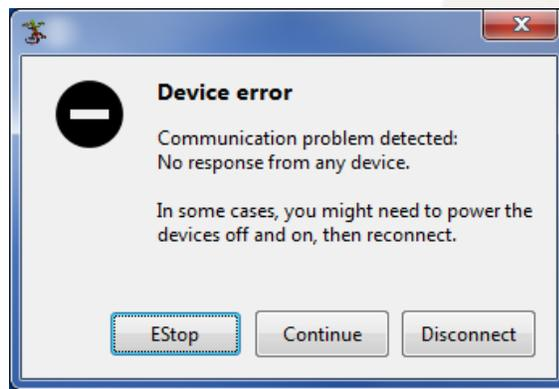
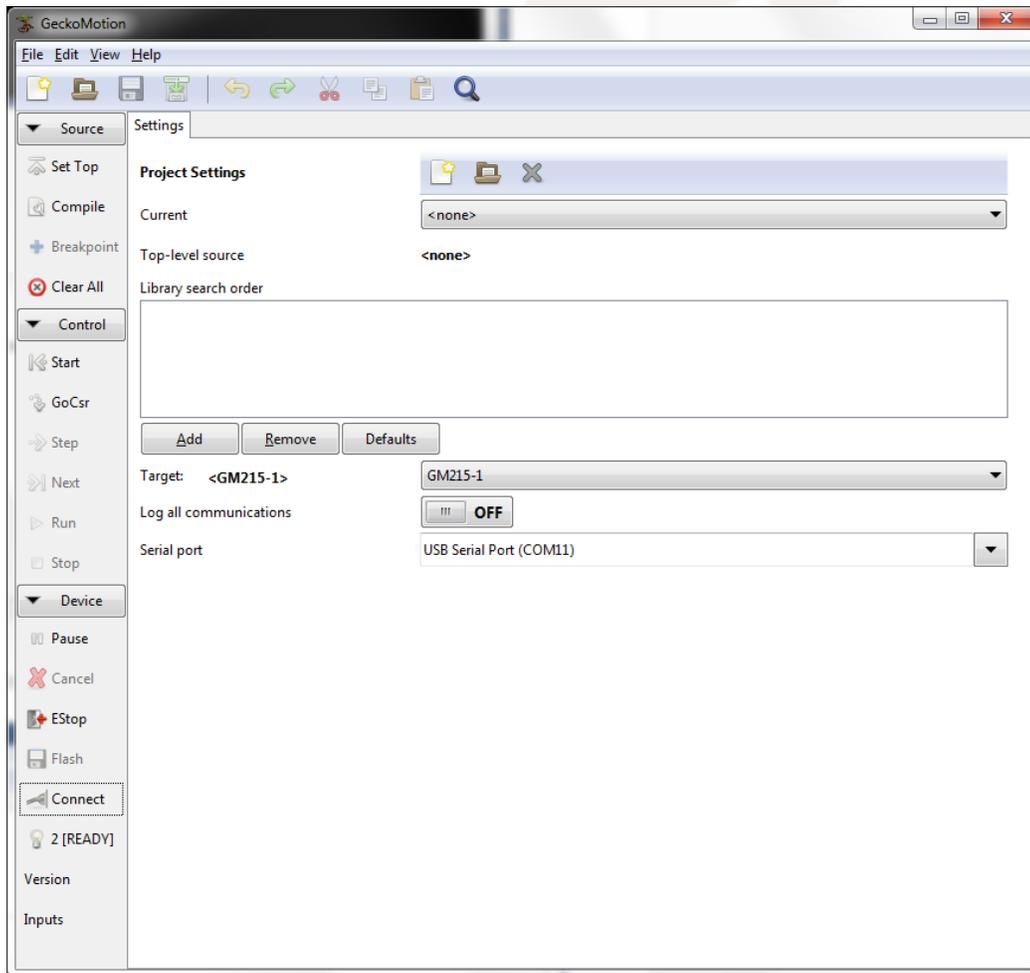

Figure 8: Device Error window
Figure 10: GeckoMotion window
**Python window** (Figure 9) and **GeckoMotion window** (Figure 10) should be displayed after the software is run, otherwise, **Device Error window** will be displayed (Figure 8) and user needs to do step 3.1 to establish the connection first.